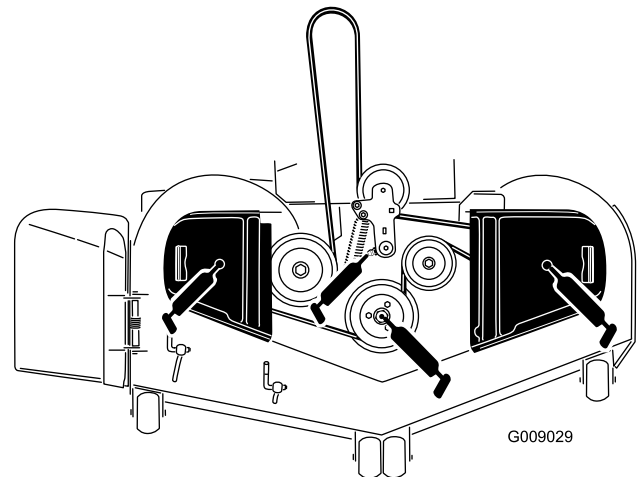

Figure 41
3. Grease the mower deck idler pulley pivot until grease come out the bottom (Figure 41).
4. Grease the three spindle bearings until grease comes out the lower seals (Figure 41).
5. Grease the drive belt idler arm (Figure 41).